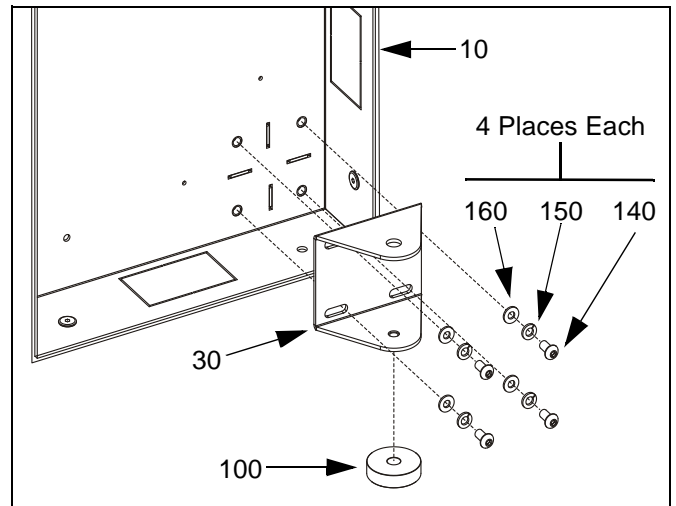

Figure 6: Install Mount Arm Support Bracket
1. Insert spacer (100) over nut protruding from lower portion of bracket (30) and place assembly into housing (10) (See Figure 6).
2. Using key (250), attach bracket (30) to housing (10) with screws (140), washers (150), and washers (160) (See Figure 6). Tighten securely.